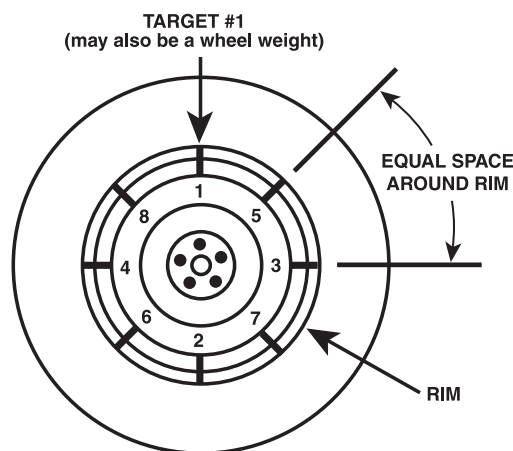

FIGURE 5:
STEP 4 : After the rim is clean, install targets as indicated in **FIGURE 5**. Install the 1st target using the STEEL CLAMP portion so the clamp fits between the tire & lip of the wheel rim. The steel clamp should hold firmly to the wheel similar to a conventional wheel weight.